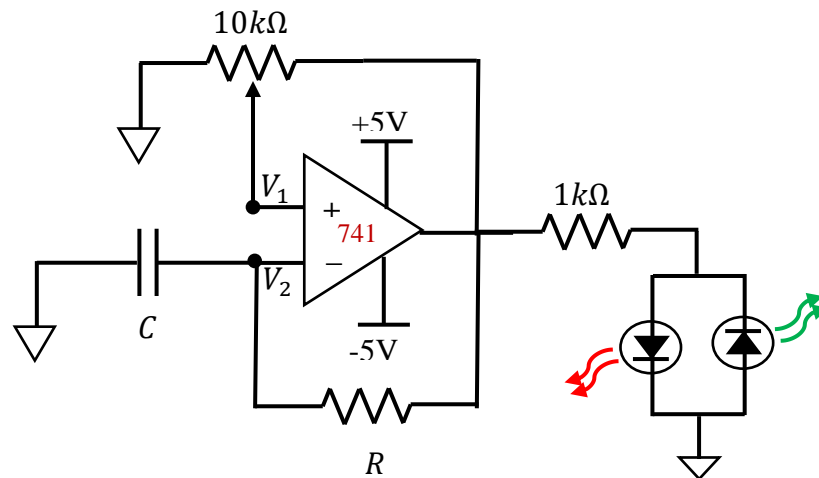

Figure 6.7 – Modified Flashing LED Circuit for Task 2.
- A. Replace the resistors R_1 and R_2 from the circuit in Task 1 with a $10k\Omega$ potentiometer. Your circuit should now look like that shown in Figure 6.7. Adjust the potentiometer until the circuit oscillates at a frequency of 1Hz (You can check the frequency of oscillation on the oscilloscope). Remove the pot from the circuit and measure the values of R_1 (between terminal 1 & 2 of the potentiometer) and R_2 (between terminal 2 & 3 of the potentiometer). What is the corresponding value of the voltage division ratio, γ ? Note: If you are using the DMM in the lab, it is straightforward to measure the resistances. If you are using the AD2 you may just want to directly measure the voltage division ratio. Put the pot back in the circuit. Record the waveforms you see on the scope to include in your lab report.